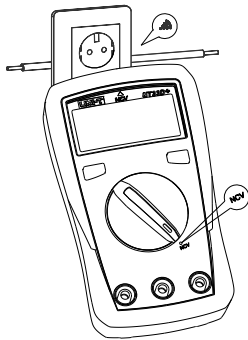

Figure 6
10. NCV measurement (only for UT131D, see Figure 6)